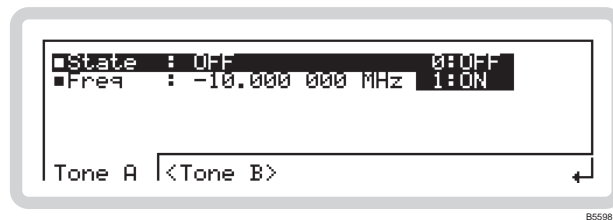

Fig. 3-44 Tones modulation
- 2 Press **SIG GEN** to show the main screen, and touch the **IQ** soft box to select the function. Touch **Tones** and press **↙** to view the Tones menu (Fig. 3-44).